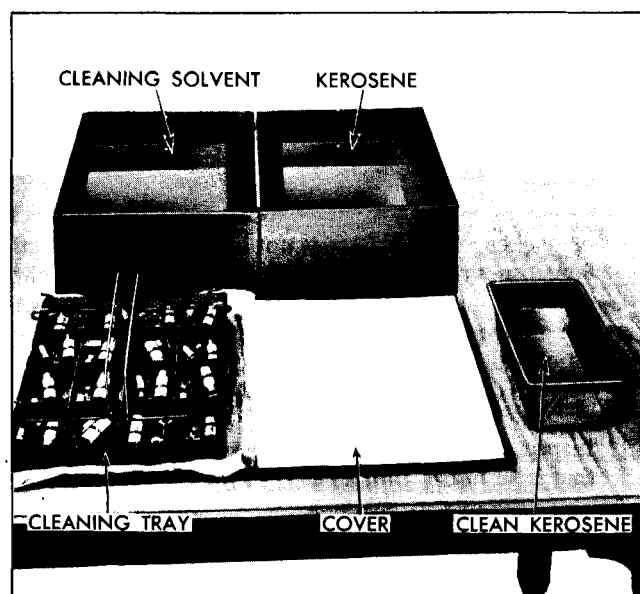

Fig. 6-25 Lifter Wash Tank and Tray
3. Drain oil out of lifter body and place all valve lifter parts in separate compartment of tray from wash tank J-5821 (Fig. 6-25).